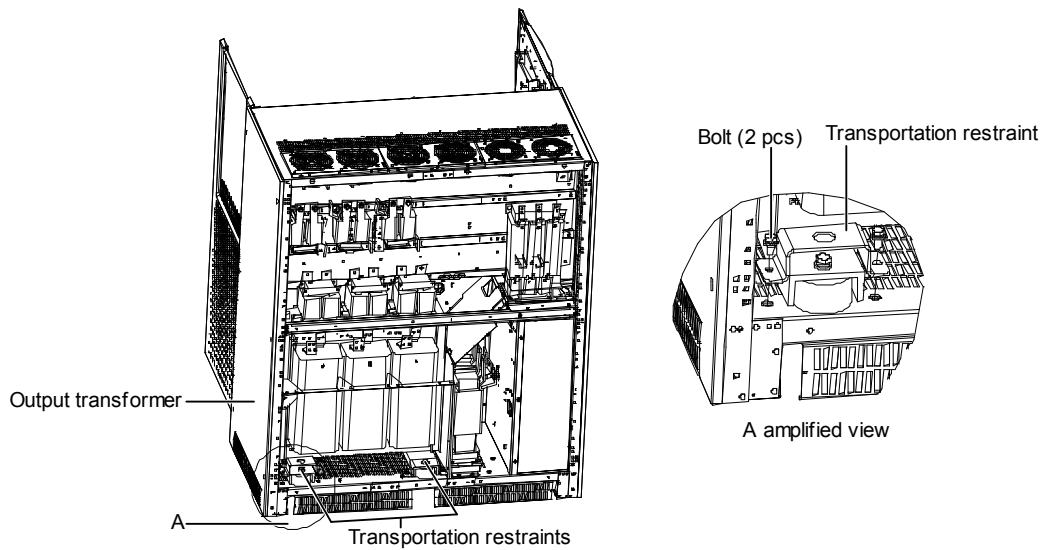

Figure 8 Removing the two transportation restraints at the back
2. Remove the back panel of the main cabinet to reveal the output transformer, then remove the two transportation restraints at the back of the output transformer, as shown in Figure 8.